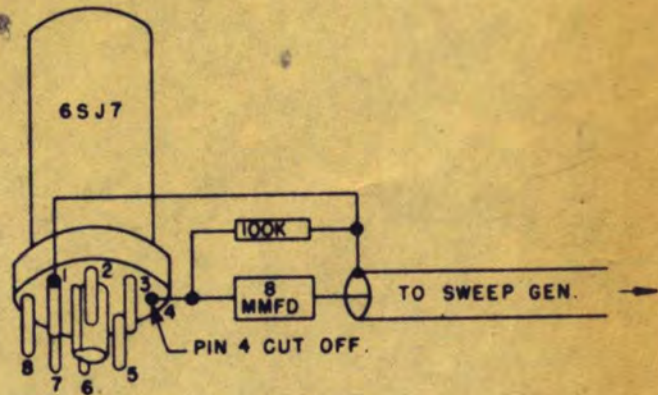

Fig. 4.
Therefore, it becomes necessary either to: (1) disconnect the grid connection at the transformer, or (2) employ a specially modified Type 6SJ7 tube, called the "signal-injector tube" for signal injection (Fig. 4). An adapting socket cannot be used as the additional capacitance is sufficient to result in improper tuning. Method 2 is preferable and is detailed in the following paragraphs.
* To obtain sufficient crystal-marker amplitude, insert a two-inch (approx.) length of #22 insulated wire into number 4 of socket 1X12. Then insert the signal generator injector tube into socket 1X12 with the lead surplus running out from under the tube base. Connect the conductor of the lead to the junction of the 8-mmf capacitor with pin 4 of the signal-injector tube (Fig. 4).
** Install the Type 6V6 tube. Bypass socket terminal 3 to ground with a mica capacitor of several thousand micromicrofarads. Short out cathode resistor 1R73. To obtain sufficient crystal-marker amplitude insert a two-inch (approx.) length of #22 insulated wire into number 4 of socket 1X13. Then insert the signal generator injector tube into socket 1X13 with the lead surplus running out from under the tube base. Connect the conductor of the lead to the junction of the 8-mmf capacitor with pin 4 of the signal-injector tube (Fig. 4).